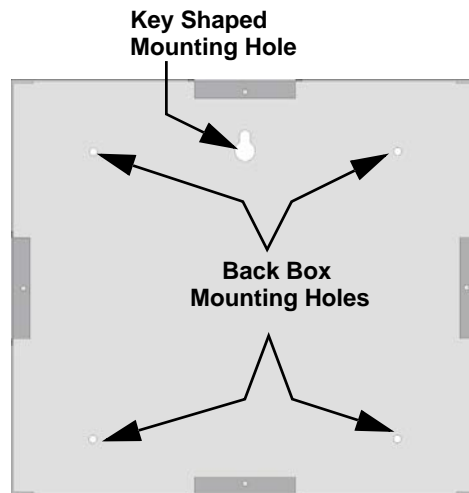

Figure 4.26 Back Box Surface Mount Holes
- To properly mount the back box, insert a single screw into the key shaped mounting hole. Do not tighten all the way. See Figure 4.26.